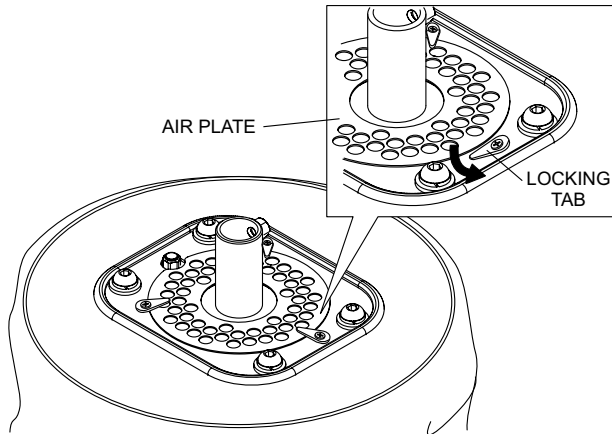

Figure 30. Accessing Filter
2. Turn the balloon/lamp assembly upside down to access the filter. See Figure 30.
3. Turn the three locking tabs outwards to release the air plate. See Figure 30.